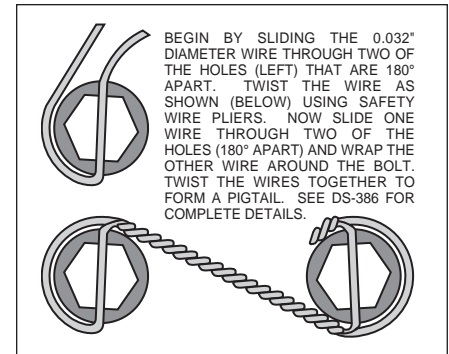

Figure 3. Safety Wire Diagram
- The flat spindle/caliper mounting bracket (1) should be installed first with clean, dry threads on the mounting bolts. Install the bracket on the back side of the spindle by sliding bolt (2) through the bracket (1) and into the upper hole of the spindle upright boss. Apply red *Loctite*® 271 to the threads and torque bolt (2) to 140 ft-lb. Slide bolt (3) through lower spindle “ear”, through the bracket (1), washer (4), and secure with locknut (5). Torque locknut (5) to 65 ft-lb. The bracket must tighten squarely against the side of the spindle body. Inspect for interference from casting irregularities, machining ridges, burrs, etc.
- With the larger I.D. side of the rotor (6) facing away from the hat (7), bolt rotor (6) to hat (7) through the backside of the rotor using bolts (9), and washers (8). Using an alternating sequence, apply red *Loctite*® 271 to the threads and torque bolts to 155 in-lb. For an added measure of security, the bolts may be safety wired using standard 0.032 inch diameter stainless steel safety wire as shown in Figure 3. Please refer to Wilwood’s data sheet DS-386 (available at www.wilwood.com/Pdf/DataSheets/ds386.pdf) for complete safety wire installation instructions.